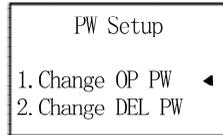

Fig. 9 Password change interface
- 2) Press the Menu key and enter the correct password to enter the main menu, find "4. Password modification by ▲" or "▼" and enter the entry, as shown in Figure 9. Enter "1. Change the Operation Password" or "2. Change and Delete Password" and enter twice the same new password to complete the password modification, and return to the password modification interface.